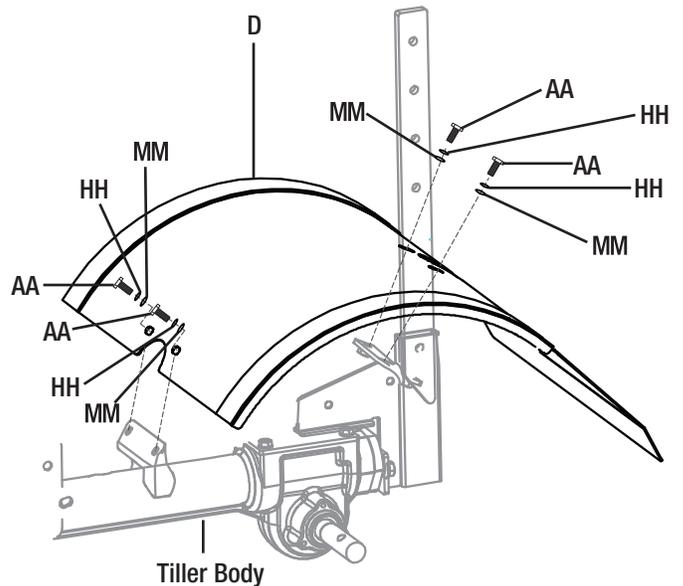

Figure 1-2
- Locate the plates with the pre-drilled holes on the rear part of the tiller body. Align the protective shield (D) holes to the plate holes. Insert M8x20 bolts (AA) with spring washers (HH) and regular washers (MM) and tighten with a wrench. See Figure 1-2.